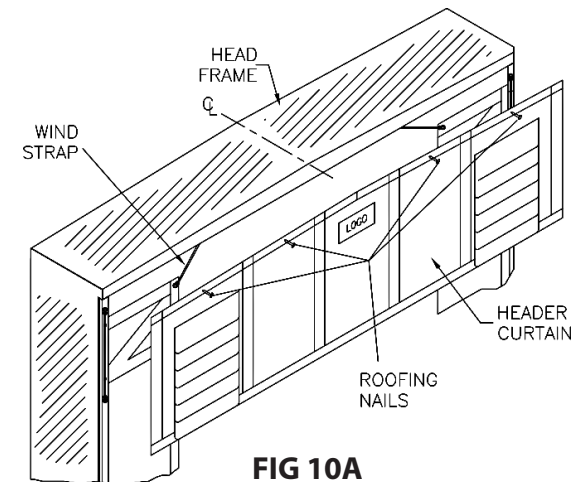
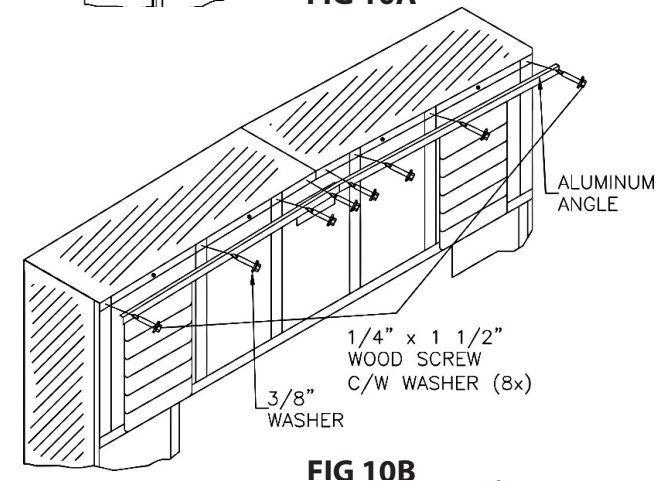

FIG 10A
FIG 10B
- Attach 2 Wind Straps (supplied) to the top inside corners of the verticals by hooking the "S hook" through the grommets, Pull wind strap until taut and secure the end to the header frame using $\frac{1}{4}$ " x $1\frac{1}{2}$ " wood screws with $\frac{3}{8}$ " washers (Figure 10a).
- Match top center of Header Curtain with top center of Head Frame (Figure 10a).
- * Secure Header Curtain between stays with four (4) evenly spaced Roofing Nails
b. Re-attach Aluminum Angle to front edge of Head Frame (Figure 10b).